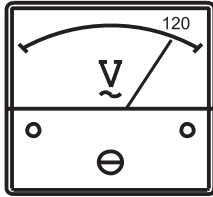

Figure 44. Voltmeter
4. The generator's AC voltmeter (Figure 44) will display the generator's output in **VOLTS**.